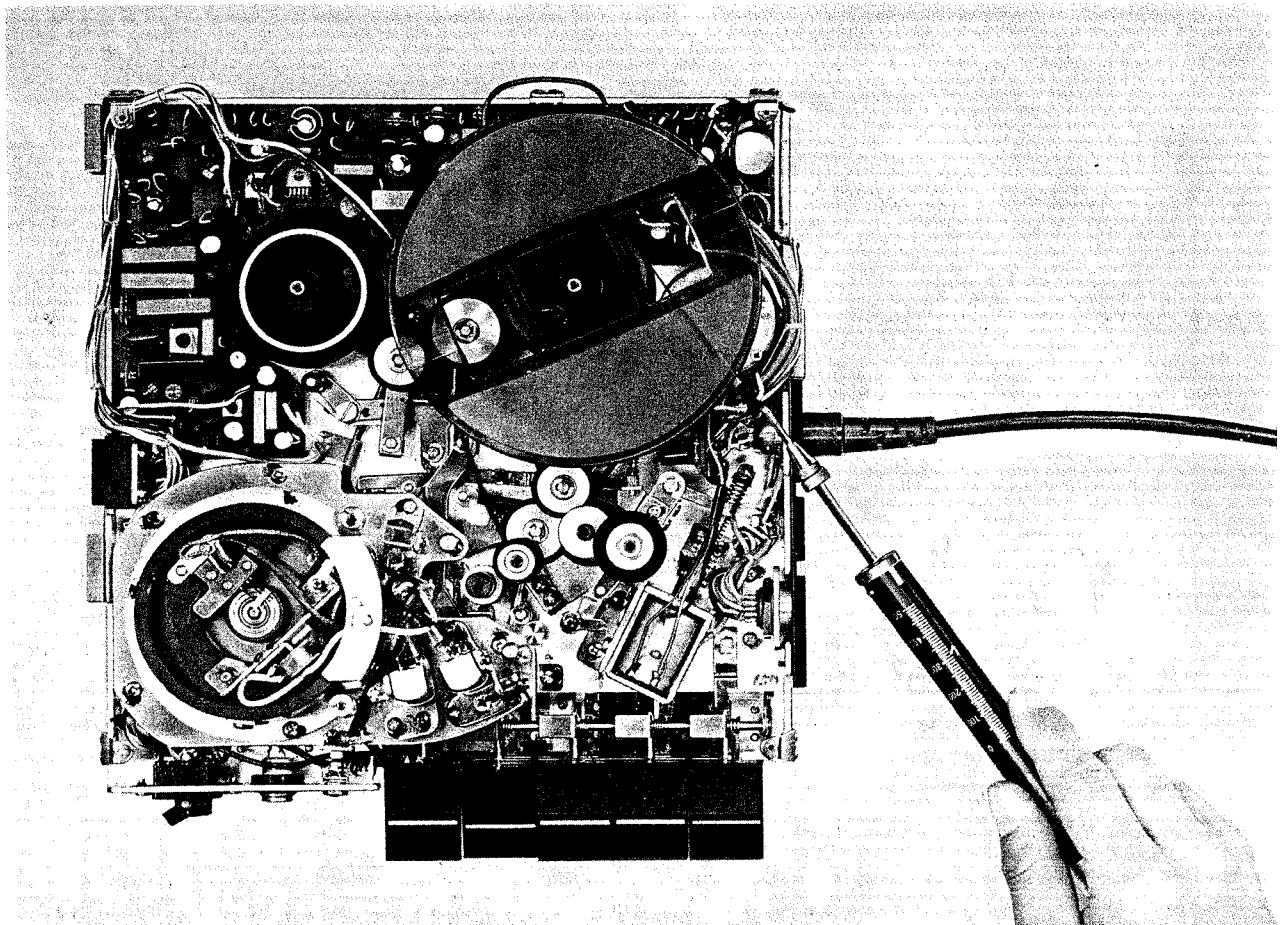

Fig. 1-31 Fast Forward Torque Measurement
- b) As shown in fig. 1-31, connect a 0 to 500 gram spring gauge to a 50 mm diameter tape and measure the FF (fast forward) torque.